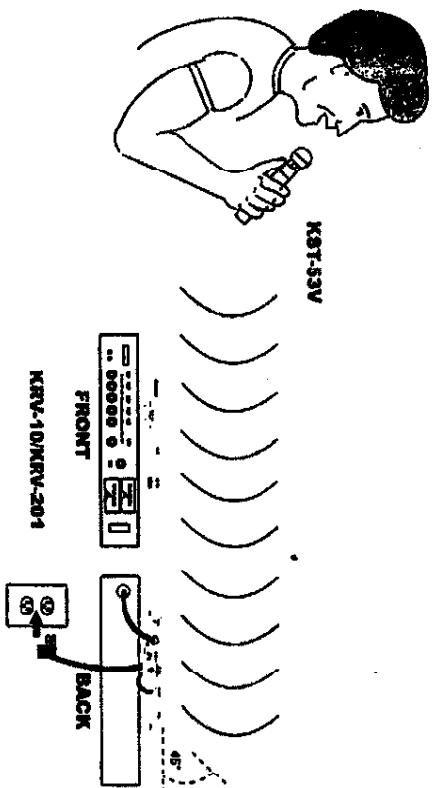

FIGURE 7
1. Refer to Figure 7, Connect the supplied ac power adapter into the DC INPUT connector in back of the receiver. Insert the adapter's cable into the power cable retainer. (\*suit of KRV-10\*) Plug the adapter into a wall socket or other ac power source (use HD41N110 for 220VAC, 50Hz power, use HD41N110E for 120VAC, 60Hz power). Push the power switch on the face of the receiver, the red POWER light on the receiver will glow.